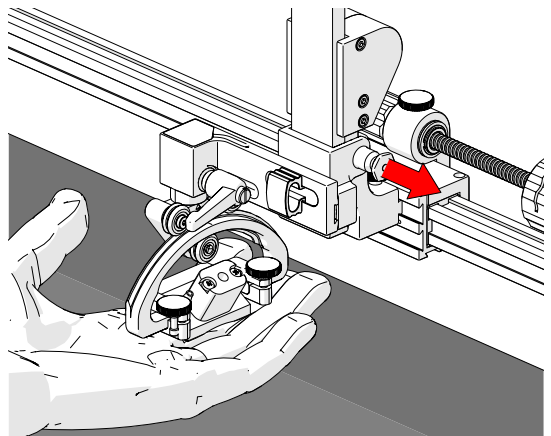
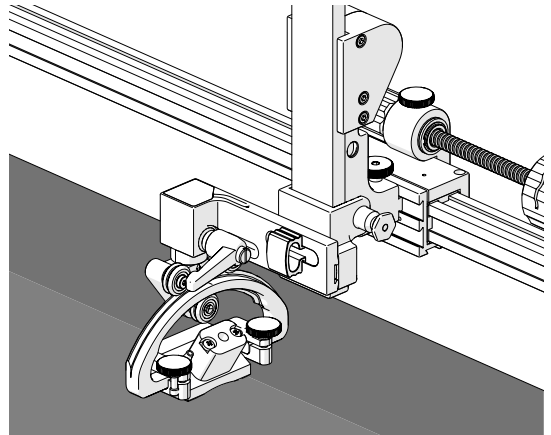

Fig. 55 - Pull latch pin
Fig. 56 - Lower probe to inspection surface
2. Pull the latch pin (Fig. 55) and slowly lower the probe holder to the scan surface (Fig. 56).